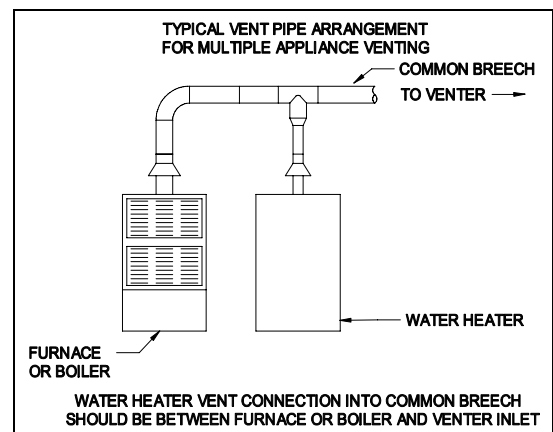

Figure 10
1. To properly adjust the venter air flow, loosen the inlet ring screws and open the choke plate approximately 1/2 to 3/4 open. (See Figure 10) Start the heating appliance following the manufacturer specified procedure, and set the thermostat to call for heat.
- b. A CK-20FV or CK-20FG control kit MUST be added to the system to properly control the venter during operation of the water heater. Refer to Figure 10, Diagram C and D for vent pipe arrangement and wiring information.